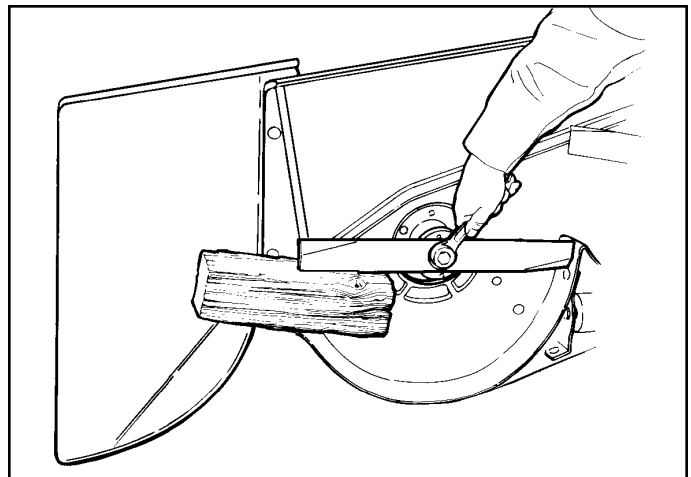

Figure 20. Removing The Blade
- To remove blade for sharpening, use wooden block to hold blade while removing the blade mounting cap-screw (figure 20).